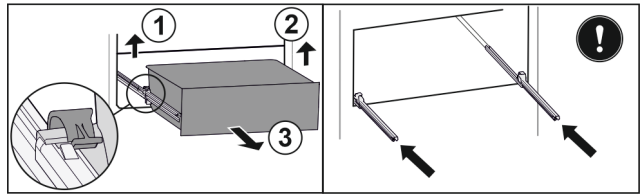

Fig. 131
- ▶ Lift left clamp and simultaneously pull drawer forwards on the left. Fig. 131 (1)
- ▶ Lift right clamp and simultaneously pull drawer forwards on the right. Fig. 131 (2)
- ▶ Remove drawer to the front. Fig. 131 (3)